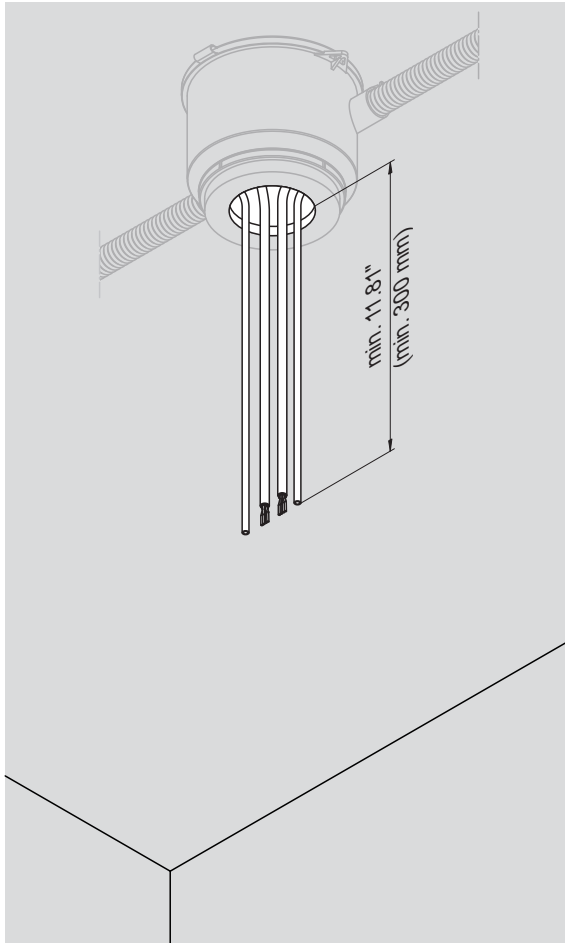

Fig. 33: Additional length for hoses and CAN bus cables
- The hoses and CAN bus cables must be led a minimum of 11.81" (300 mm) from the ceiling or floor connection point before they are cut to length (see Fig. 33).
- For the central unit and external drain module, should there be one, the hoses and CAN bus cables must be cut to length leaving enough extra for easy connection (see Fig. 33).